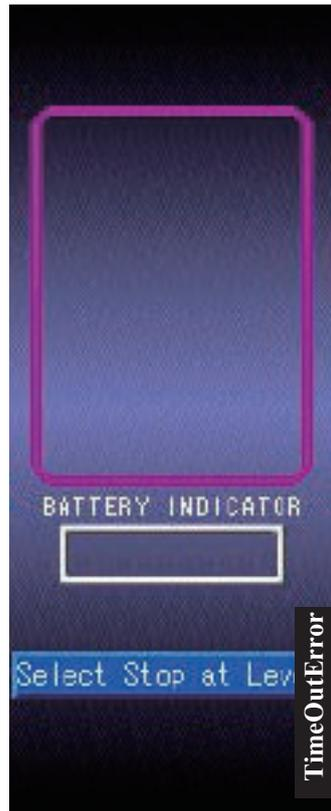

Fig. E-3
- Fig E-3 might be the touch screen connection error.